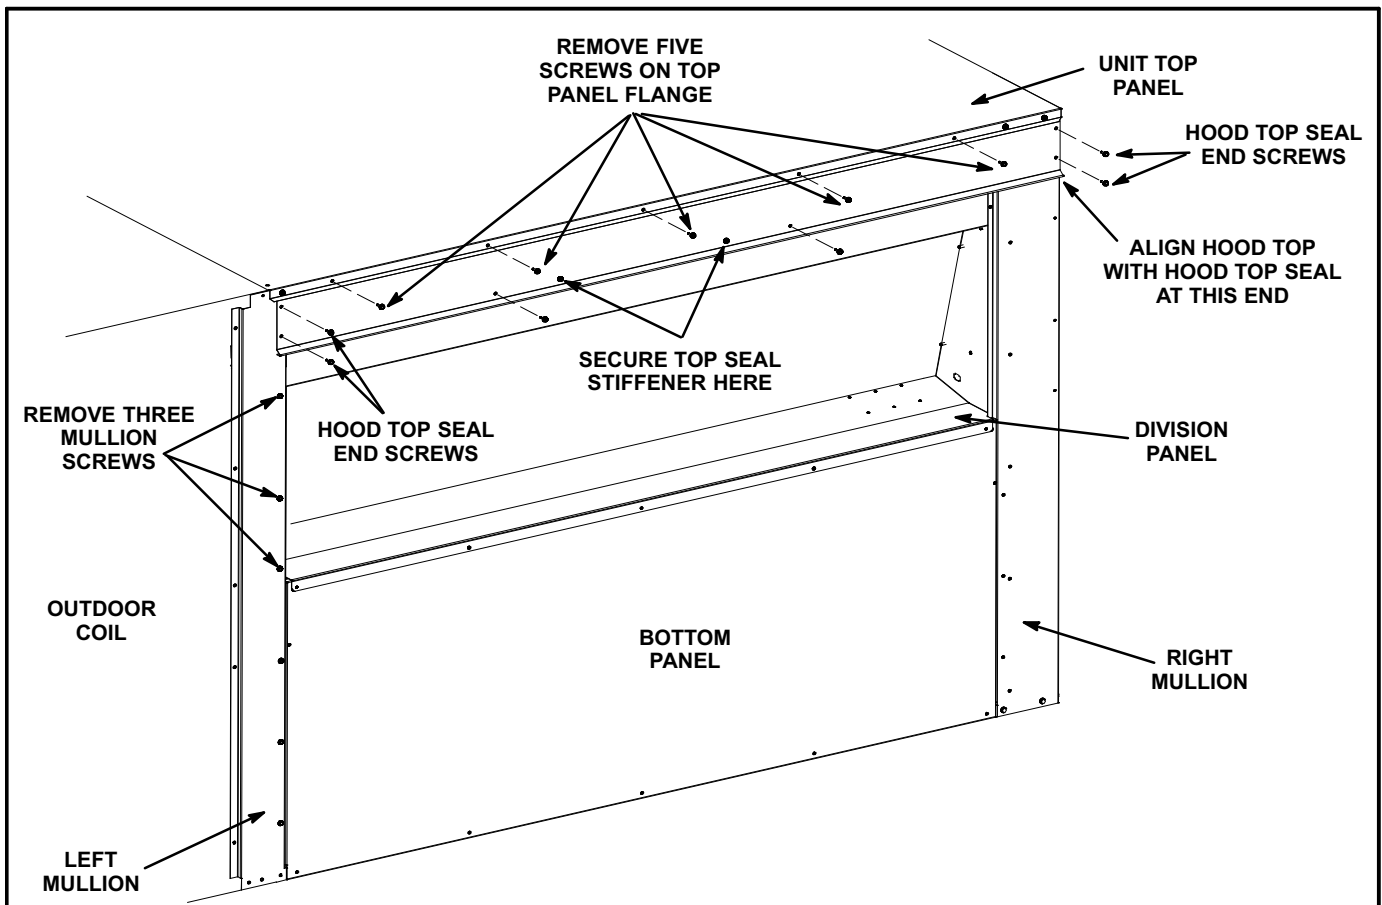

FIGURE 8
The outdoor air hood is packaged separately but attached to the damper assembly crate. Use #10 self drilling screws to install hood unless noted otherwise. Refer to figures 8, 9, 10, 11, and 12.
- 2- Secure top seal stiffener to back side of hood top seal. See figures 8 and 9.
- 3- Slide hood top seal under unit cabinet top and secure using five retained top screws. Install, but do not tighten, the two screws on each end of the hood to seal. Refer to figure 8.
- 4- Remove and retain top three screws on the left mullion of the outdoor air section. See figure 8.
- 6- Position the hood top edge V-channel under the corresponding V-channel on the hood top seal and slide into place from right to left. See figure 8 and 9.